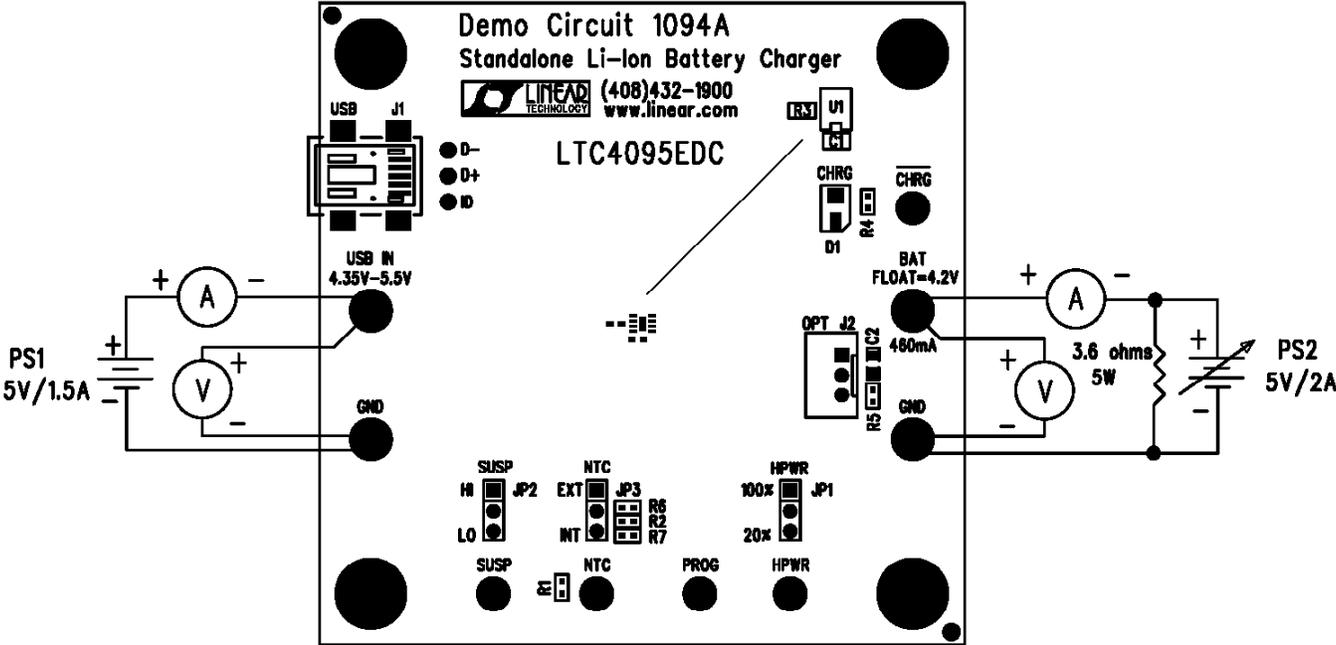

Figure 1. Proper Measurement Equipment Setup
Demonstration circuit 1094 is easy to set up to evaluate the performance of the LTC4095. The charger may be evaluated using an actual Li-Ion battery, a bi-polar supply, or a battery simulator. A battery simulator consists of an adjustable supply with a load resistor across the supply output. A 3.6Ω 5W resistor value will provide an 800mA load at 2.9V. This will allow the power supply to sink and source current similar to a battery, but allows the battery voltage to be changed quickly or remain at the same value indefinitely. Refer to Figure 1 for proper measurement equipment setup and follow the procedure below:
- With the power supplies adjusted to 0V, connect the USB IN power supply and Battery or Battery Simulator with series ammeters, as illustrated in Figure 1. An ammeter or a 100mΩ current sense resistor may be used to measure the battery charge current.
- Connect voltmeters, as shown in Figure 1, across the USB IN and GND terminals, and across the BAT and GND terminals. These voltmeters may also be used to measure the voltage on the PROG terminal.